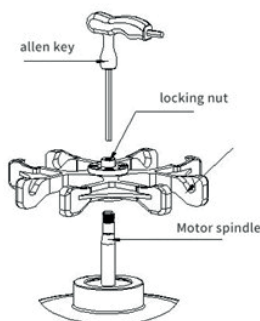

Figure 4: Schematic diagram of installing rotor
- As shown in Figure 4, prepare the rotor you want to use. Hold the rotor with both hands, align the center hole of the rotor with the motor spindle, place it vertically and at the bottom of the conical surface of the spindle. Release both hands, press the rotor down with your hands again.